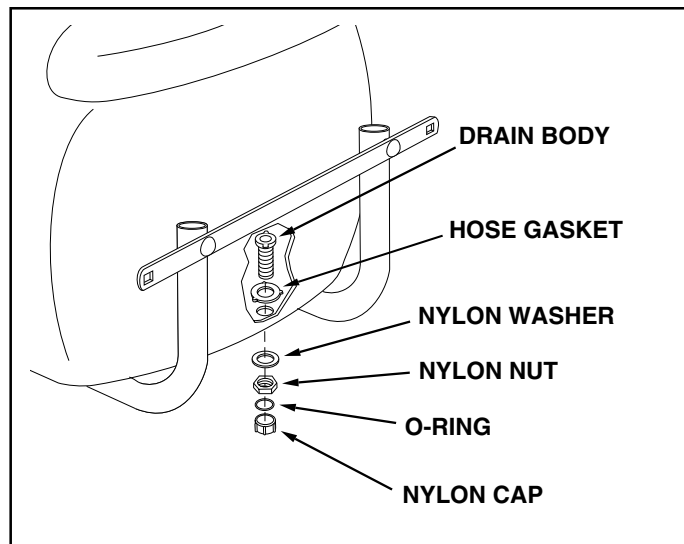

FIGURE 7
- Install the drain in the bottom of the tank as shown in figure 7. Place a 3/4" garden hose gasket onto the drain body and insert the drain body down through the hole in bottom of the tank. Outside the tank, assemble the nylon washer and then the nylon nut onto the drain body. Tighten the nut securely enough to prevent leaking, being careful not to damage the plastic parts. Place the O-ring inside the nylon cap and screw the cap onto the end of the drain body.